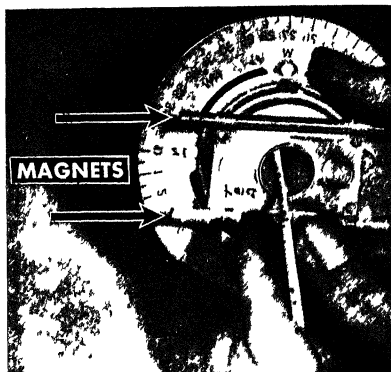

Figure 10-16 —Removing the jewel from the float
6. Remove the screw from the top of the float, and use a piece of pegwood with a rounded end to push the jewel and its spacer out of the float. Study figure 10-16. (CAUTION: Be extremely careful at all times when handling the float to avoid damage to the compass card.) Hone a steel needle to a sharp point on an oilstone and rest it on your thumbnail (fig. 10-17). If it slides under its own weight, it is NOT sharp enough; if it catches on your thumbnail, it has correct sharpness. Now slide the needle under its own weight over the whole bearing surface of the jewel, as shown in figure 10-18.